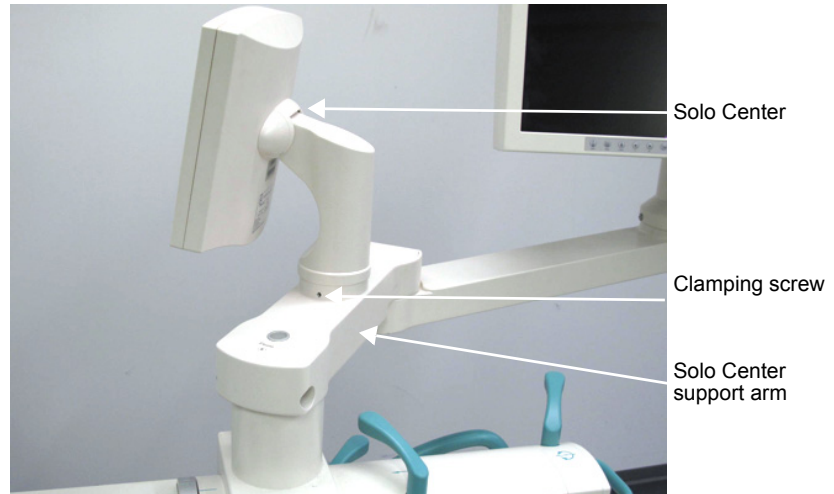

Fig. 4-9 Solo Center support arm
- Fasten the lateral clamping screw on the Solo Center in such a way, so you can still swivel the Solo Center smoothly (→ Fig. 4-9).